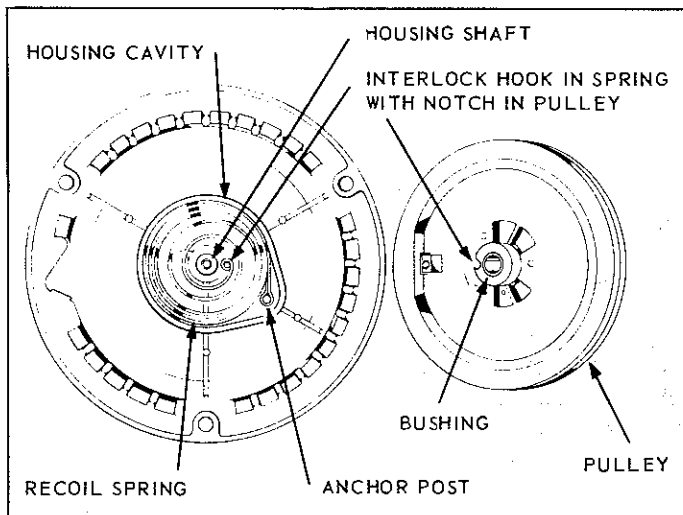

FIG. 6
Prevent recoil spring from escaping from housing by carefully lifting pulley about 1/2 inch and then detaching inside *spring hook* from pulley, with a screw driver. *Note*: If spring should escape, it can easily be replaced into cover by coiling in the turns. See Fig. 6, for proper direction of spring coiling. If it is necessary to remove spring, start with the inside loop and carefully pull out one loop at a time while holding back rest of turns. When replacing spring, note the position of *spring hooks* in Fig. 6. Engine rotation is clockwise, viewed from starter end.
E. RECOIL SPRING REPLACEMENT, Fig. 6
Spring holders furnished with replacement springs simplify the assembly procedure. Place *recoil spring* in proper position as shown in Fig. 6, with the outside loop hooked around the *anchor post*. Then press spring into *housing cavity* thus releasing the spring holder. A few drops of SAE 20 or 30 oil should be applied to spring and light grease on housing shaft.
F. ASSEMBLY of PULLEY, Fig. 6